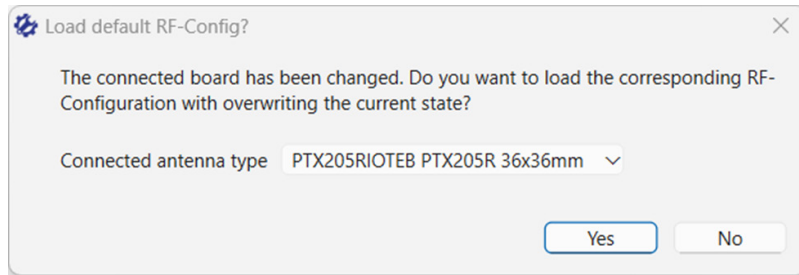

Figure 8. Load Default RF-Config Window
- After the connection wizard dialog closes, another dialog box opens and prompts the user about loading the default configuration values for the detected board (see Figure 8). Since the antenna is detachable, it cannot be guaranteed to be recognized correctly, thus the antenna selection can be overridden from a list of supported antennae from the board. If the antenna has not been detached, use the default settings.